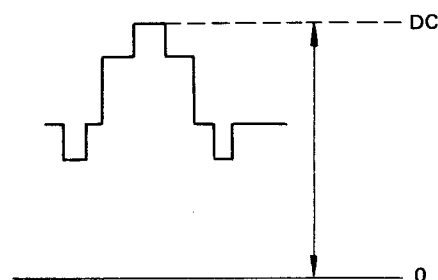

Figure 100.
5. Connect a regulated power source to pin ①⑥ of I201, and observe DC voltage on oscilloscope.
7. Apply stair-like waveform to the input terminal, and adjust R229 (NL level control) so that the white peak voltage will be the same as obtained in step 6. above. (Fig. 100)